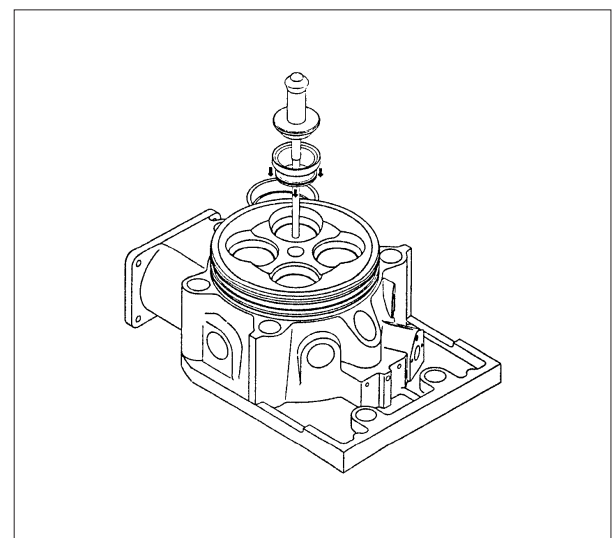

Fig 5.
5) The valve seat ring is positioned in the bore, the handle with stud is inserted as shown in fig 5, and the washer with screw is screwed tight.